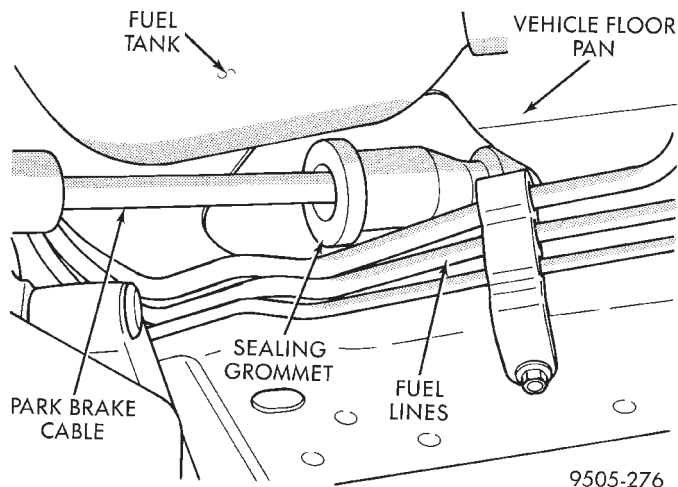

**Fig. 146 Park Brake Cable Removal / Installation At Floor Pan**
(29) Remove the park brake cable and sealing grommet (Fig. 146) from the floor pan of the vehicle.
(1) Install the park brake cable into the floor pan. Make sure sealing grommet on park brake cable (Fig. 146) is installed in floor pan as far as possible to insure a proper seal.